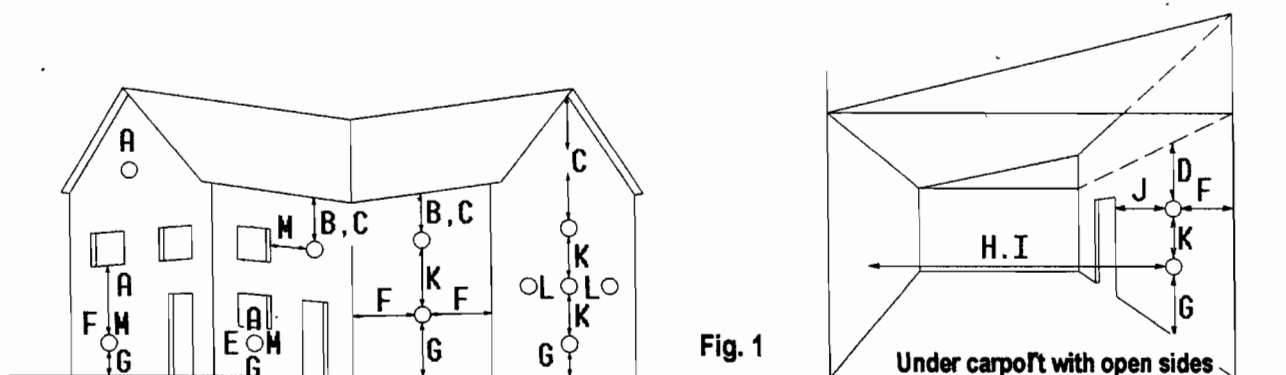

Fig. 1
**IMPORTANT REQUIREMENT:** The correct dimensional relationship between the terminal and any obstruction, openable window or ventilator as shown in Section 4.5.10, Fig 1 and stipulated in Section 4.5.10, Fig 2. It is **ESSENTIAL TO ENSURE**, in practice, that products of combustion discharging from the terminal cannot re-enter the building, or any other adjacent building, through ventilators, windows, doors, other sources of natural air infiltration, or forced ventilation/air conditioning systems. If this should occur, the appliance **MUST BE TURNED OFF IMMEDIATELY** and the local gas region consulted.